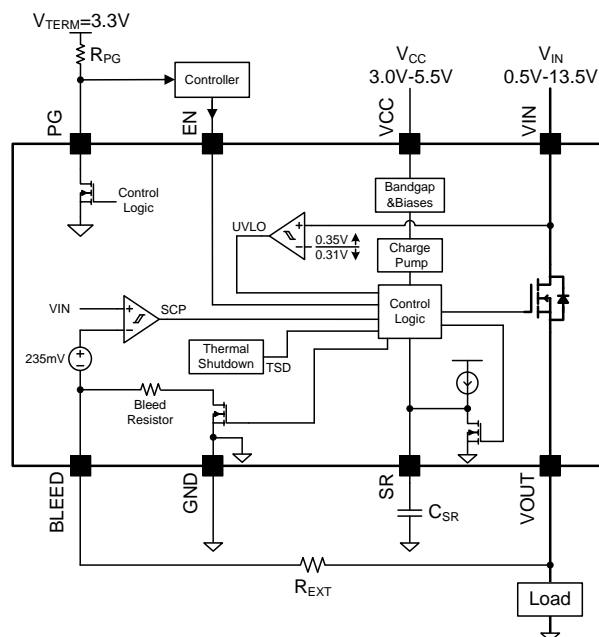
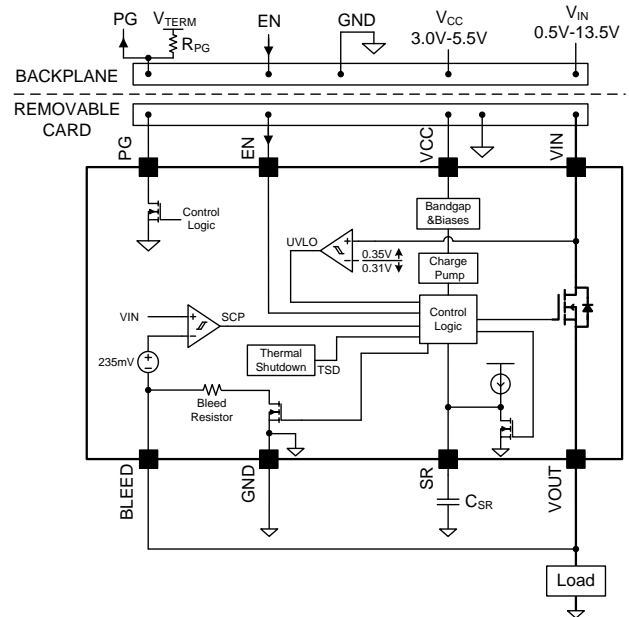

Figure 5. Typical Application Diagram – Load Switch
Figure 6. Typical Application Diagram – Hot Swap
To quick discharge output capacitor, the SY28481DCD integrates an internal bleed resistor (R_{BLEED}). The resistor is switched on when EN is inactive (logic low). Connect the BLEED pin either directly (as shown in Figure 6) or through an external resistor, R_{EXT} (<1kΩ, as shown in Figure 5). The maximum continuous power dissipation for the internal bleed resistor is 0.4W. Ensure that the maximum power dissipation is not exceeded.
The SY28481DCD integrates a power good indicator (PG). The PG pin is an active high, open drain output. An external resistor with a value of 1kΩ or larger, connected to a voltage source is required when this pin is used (as shown in Figures 5 and 6). When the MOSFET is turned ON, the PG pin is high impedance, and the voltage at the pin is determined by the external voltage source that the external resistor is connected to.
The SY28481DCD features programmable output slew rate control to reduce the inrush current during start up with large output capacitance. Connect a C_{SR} from the SR pin to GND to program the slew rate (as shown in Figures 5 and 6). The slew rate can be calculated using the following equation: